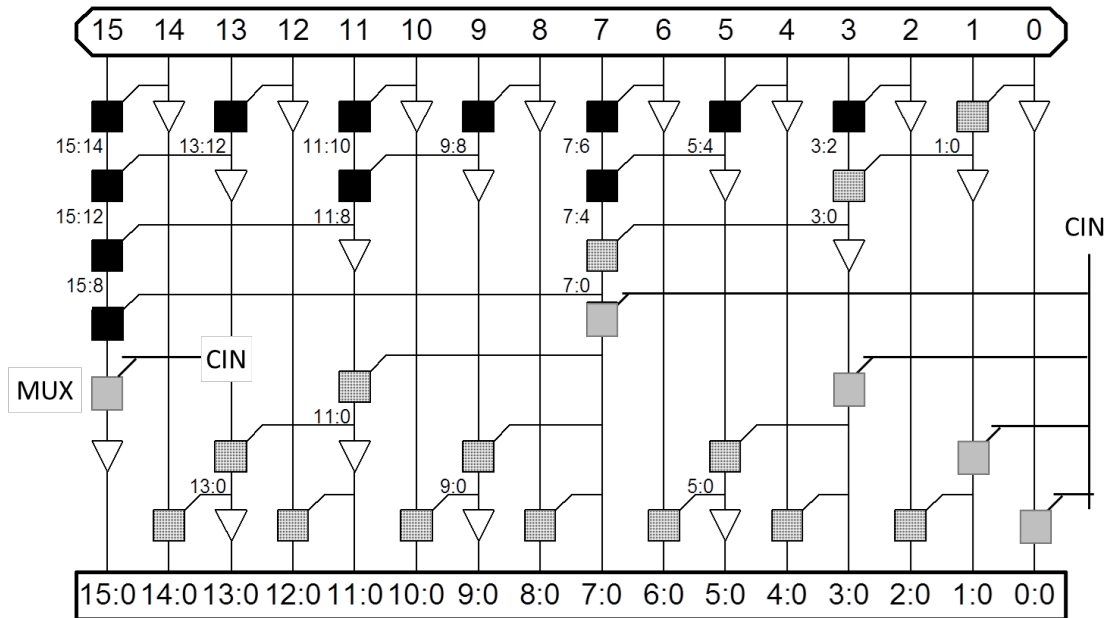

Figure 4: The prefix tree for a 16-bit Brent-Kung adder
- a. Figure 4 below shows another type of 16-bit prefix-tree adder than the Sklansky adder, namely the Brent-Kung adder. The prefix-adder solution involves an inverse tree to distribute the carries from the top tree to the SUM XOR-gates. Use your knowledge about binary trees to derive a general expression for the worst case carry delay through the prefix-trees for any size  $N$ -bit Brent-Kung adder.